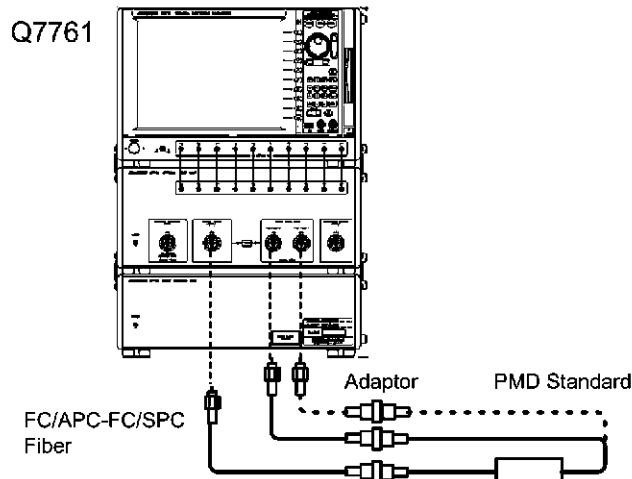

Figure 2-18 Connection-2 for Polarization Mode Dispersion Measurement Accuracy Test
12. After PMD normalization is completed, connect the PMD standard as shown in Figure 2-18 and make this instrument carry out measurement with SINGLE.